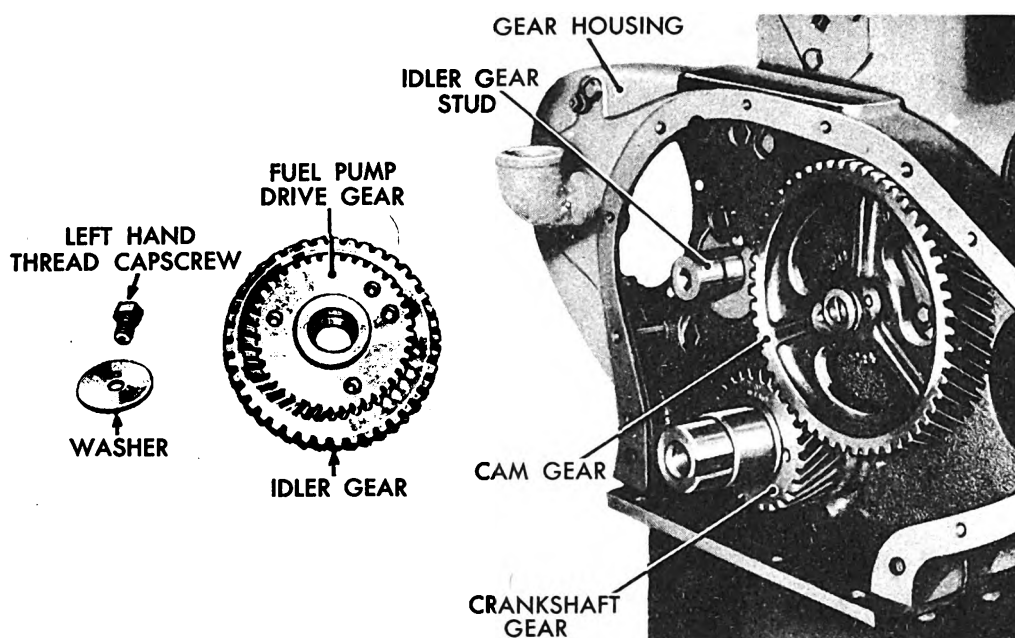

Fig. 174. Installing Idler and Pump Drive Gear Assembly
**k. Installing Idler Gear.** (1) Install the idler gear on the idler gear shaft with the larger gear (helical cut teeth) out. (See Figure 174.) If the idler gear was separated from the fuel pump drive gear and not reassembled, set the idler gear on the fuel pump drive gear so that the dowel hole matches with the dowel in the drive gear, and the center hole in the idler gear matches the pilot hub of the drive gear. Screw in the three capscrews and tighten the two gears together; safety wire the capscrews. (See Figure 131.)
(2) Screw the idler gear retaining washer and capscrew in place. This screw has a left-